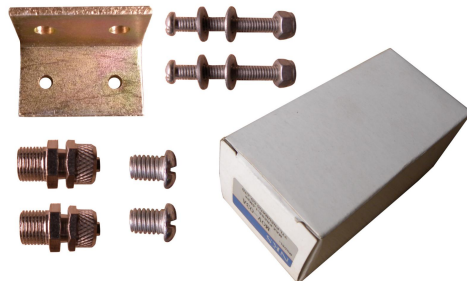

Fig.12
8. Check the parts of the parts bag according to the parts bag list (**See Fig. 12**).